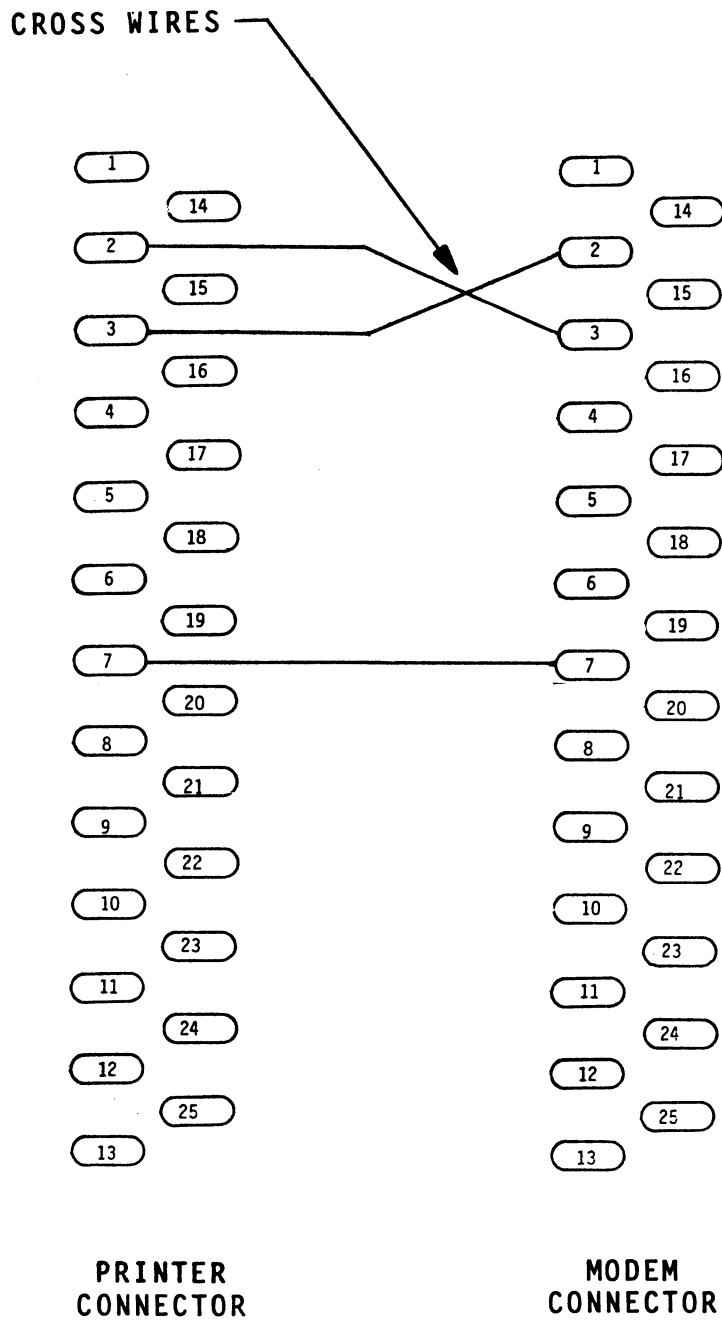

FIGURE 2-8. SPECIAL THREE WIRE CABLE CONNECTIONS
You must also construct a three (3) wire cable with RS232, "D" type connectors on either end (Ref. Figure 2-8). This is a special signal cable to be connected between the serial printer port (Port B) and modem.